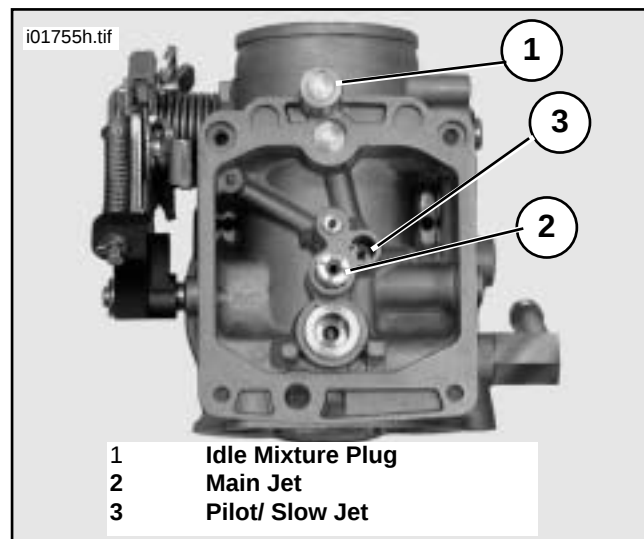

Figure 3. Idle Mixture Plug Location
5. See Figure 3 and Service Parts Illustration. Locate the Idle mixture plug (1). If you see a Idle mixture screw head not plugged, proceed to the adjusting procedure. With the plug drill bit (16) provided, carefully drill through the plug. Use the screw (17) provided to secure and remove the plug.